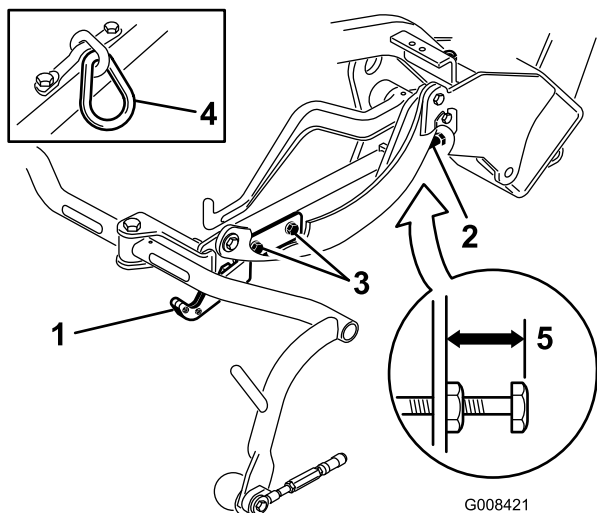
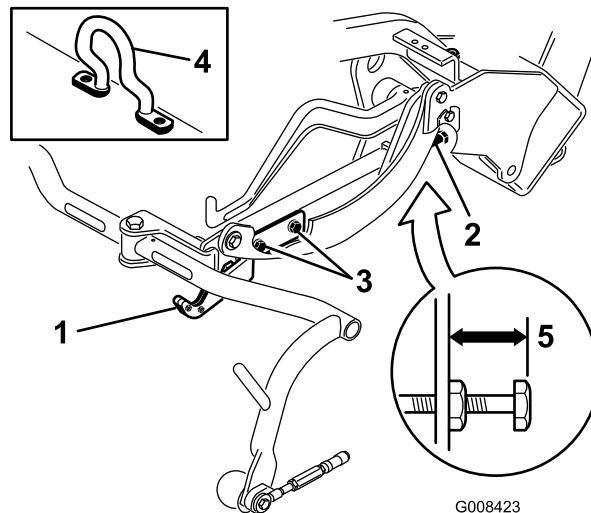
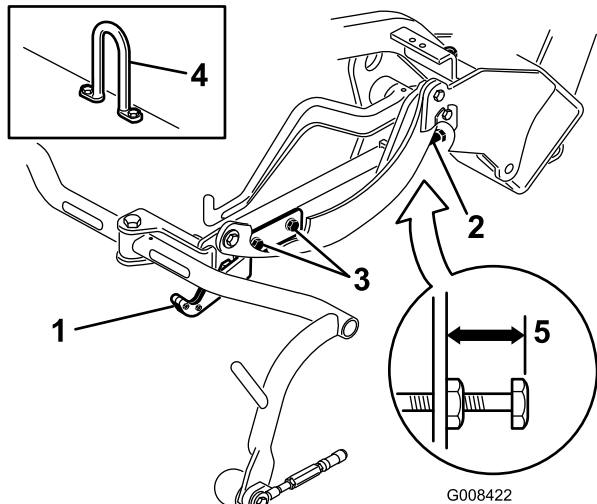

Figure 19
Figure 21
Figure 20
Check the transport height (Figure 19 & Figure 20) and adjust, if required.
2. On cutting units equipped with a chain link or a straight lift hook (Figure 19 & Figure 20, insets) verify that the distance from the top of the carrier frame adjusting screw to the back of the carrier frame is 7/8 inch (22 mm). If the distance is not 7/8 inch (22 mm), proceed to step 4. If the cutting unit is equipped with an offset lift link (Figure 21), proceed to the next step.
4. Loosen the transport plate mounting screws (Figure 19, Figure 20 and Figure 21).
7. If the carrier frames are not at the same height, loosen the jam nut on the carrier frame adjusting screw (Figure 19, Figure 20 and Figure 21). Rotate the screw outward to raise and inward to lower. Tighten the jam nut after the proper height is obtained.
3. On cutting units equipped with a offset lift hook (Figure 21, inset) verify that the distance from the top of the carrier frame adjusting screw to the back of the carrier frame is 1 inch (25 mm). If the distance is not 1 inch (22 mm), proceed to step 4.